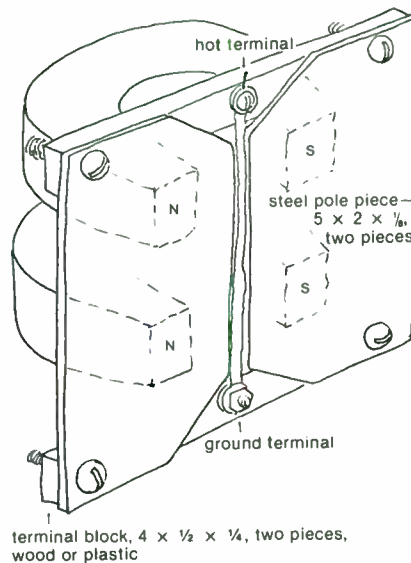

FIGURE 1: Layout of a ribbon tweeter using two alnico magnets.
The basic design is shown in Fig. 1. Here, one or more permanent horseshoe magnets establish a magnetic field in a narrow gap. A very thin conductive ribbon is suspended in the gap. It is held in place at each end by screws, which enter terminal blocks located at the top and bottom of the gap. In a biamped system, the tweeter is connected to its power amplifier
where the slot width (W) and height (h) are expressed in centimeters. For the unit shown in *Fig. 1*, which has a width of 0.25cm and a height of 10cm, air mass is equal to only 2.5 milligrams.
To develop an mmf of 750 gilberts, an alnico 5 magnet length of at least 1.5cm is needed, since its flux starts to drop off rapidly above 500 oersteds. An alnico 5 magnet can supply the desired 50,000 lines if its cross-sectional area is at least 5cm². This means that the flux density in the magnet would be about 10,000 gauss, which is a reasonable value. You can easily meet these magnet dimensions by paralleling a couple of quarter-pound alnico 5 horseshoe magnets as shown in Fig. 1. Increasing the number of magnets in parallel will, of course, raise the gap field further, thereby boosting the efficiency of the ribbon tweeter.
In this formula, all dimensions are in centimeters: h is the vertical height of the pole pieces, w is the gap width, d is the gap depth (i.e., the thickness of the sheet metal from which the pole pieces are made), and x is the total width of the magnetic assembly. Using the rough dimensions from Fig. 1 (h = 12.5cm, w = 0.25cm, d = 25cm, and x = 10cm) we found a reluctance value of 0.016 gilberts per maxwell (i.e., 0.016Ω). Therefore, at 750 gilberts, we must supply a total flux of nearly 50,000 lines.
We recommend that the pole pieces be made from flat strips of soft low-carbon steel sheet metal. The thickness is not critical, as values from $\frac{1}{16}$ to $\frac{1}{8}$ inch are satisfactory. The overall length of each strip should equal the working height of the ribbon radiator, as shown in Fig. 1. The width of each pole piece should be a couple of inches. Again, this is not critical. The two pole pieces are fastened together by means of the insulating terminal boards at the top and bottom of the unit. The screws' clearance holes should be generously oversized to allow some adjustment for the exact ribbon width when the ribbon is installed.